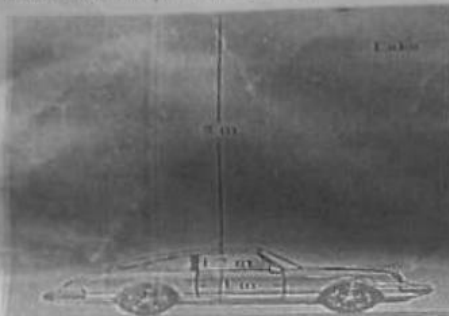

Figure 2a: The Heavy Car
- A heavy car plunges into a lake during an accident and lands at the bottom of the lake wheels as shown in Figure 2a. The door is 1.2 m height and 1m wide, and the top edge of the door is 8 m below the free surface of the water. Determine the hydrostatic force on the door location of the pressure center.